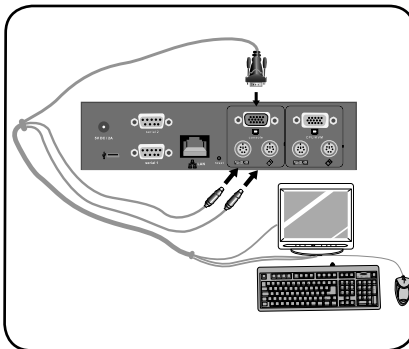

Fig. 2
- 2.2 Connect your monitor to the "Console" VGA port on the RIPM. See **Fig. 2**.